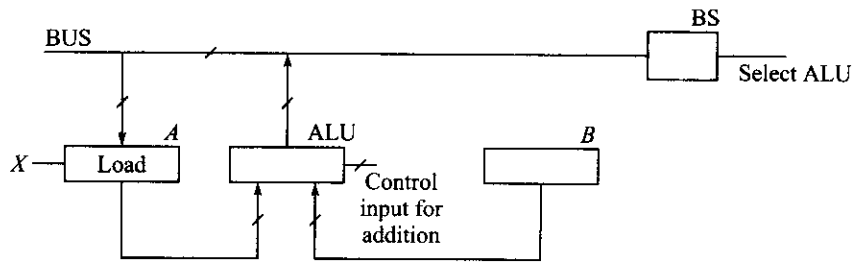

Fig. 16.4 The micro operation $A \rightarrow A + B$
Normally, we come across these four kinds of micro operations namely (i) Inter-Register transfer (ii) Arithmetic operation (iii) Logic operation and (iv) Shift operation. Note that, left shift without carry can also be obtained by addition operation as shown in Example 6.14 of Chapter 6. Figure 16.4 shows how addition operation $A \leftarrow A + B$ takes place through ALU and BUS.
6. What is to be changed in Fig. 16.4 to perform $A \leftarrow A \& B$?